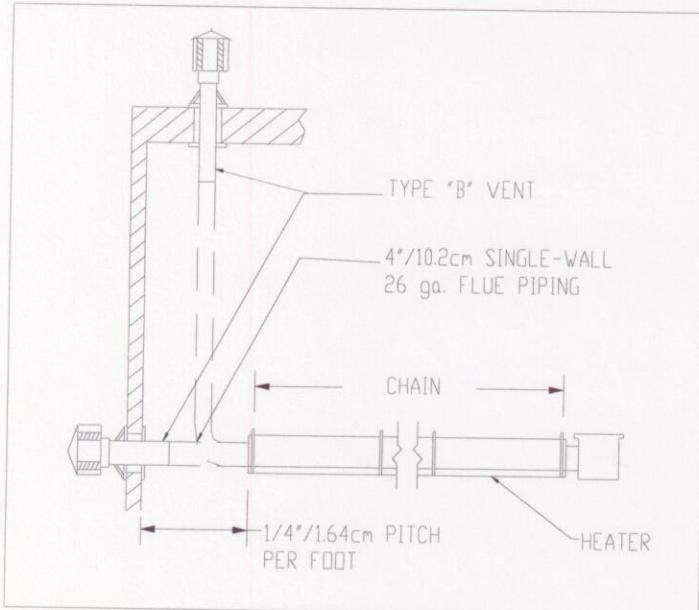

Figure 2.8.5
- * Horizontal flues should be pitched down toward outlet, $\frac{1}{4}$ in./ 6.4cm per ft. of vent length, to prevent rain from entering the heater (see Figure 2.8.5). Do not pitch heater.